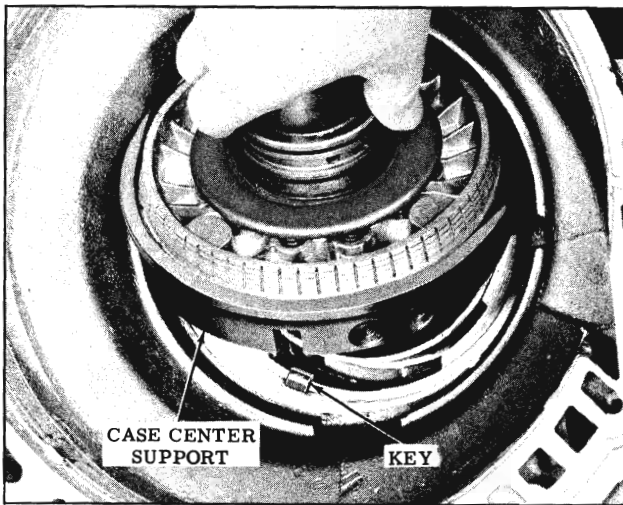

Fig. 3-291 Installing Case Center Support
5. Install the case center support assembly aligning keyway in support with key. (Fig. 3-291)